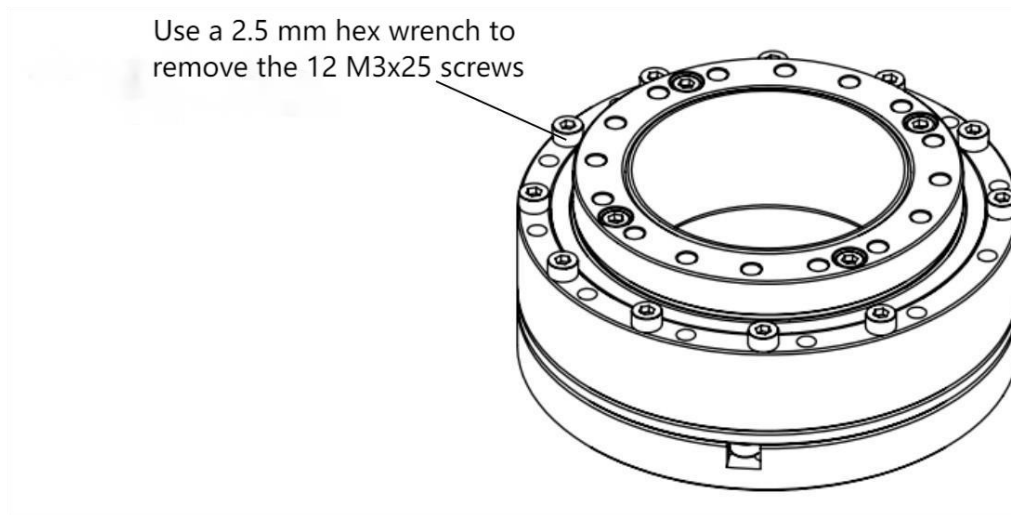

Figure 3-27 Remove the end fixing screw
Step 3 As shown in Figure 3-27, remove the end fixing plate by using a 2.5mm hex key to remove the 12 fixing screws of the M3x25 reducer.